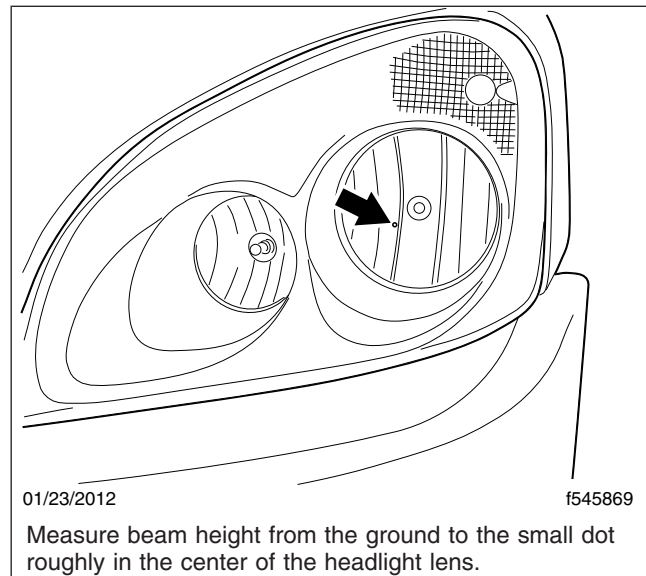
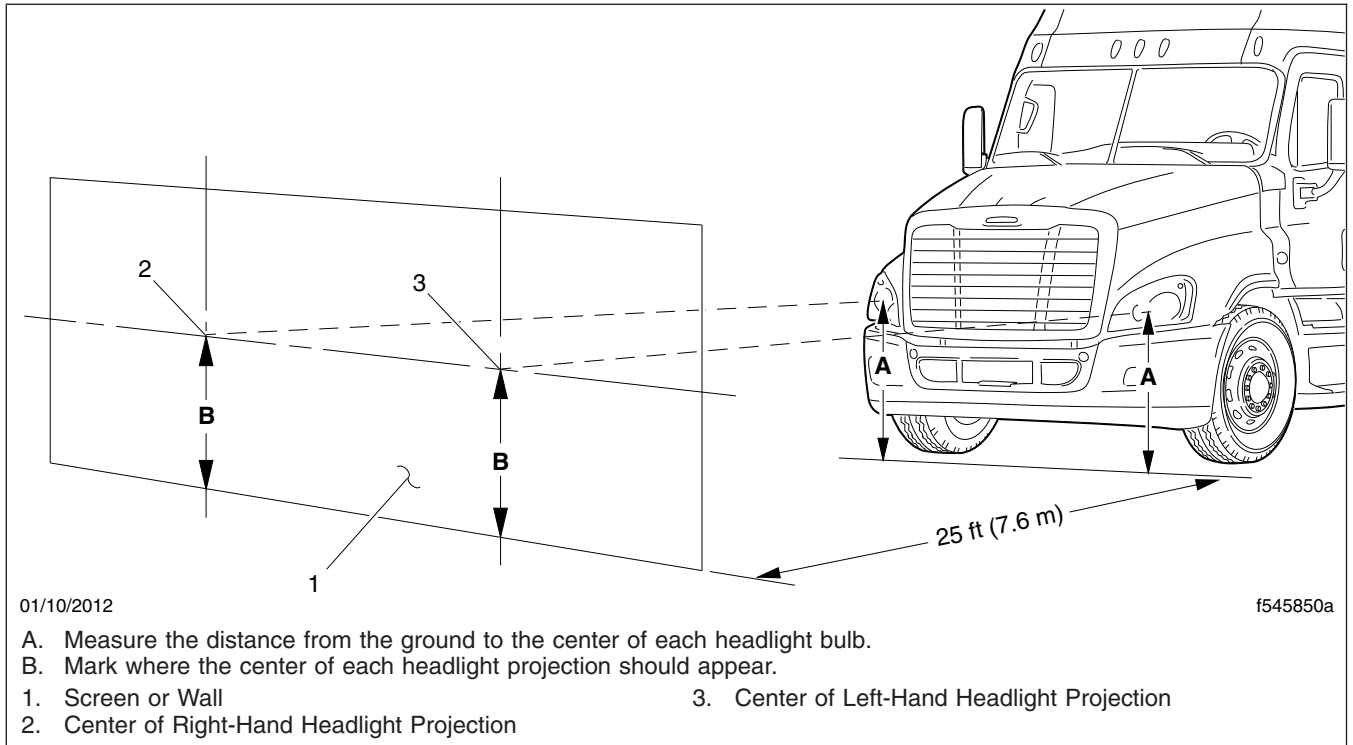

Fig. 23.1, Headlight Beam Height Adjusting Dot
Fig. 23.2, Headlight Aiming Screen/Wall
2. Each headlight has a height adjusting dot. See Fig. 23.1. Measure the distance from the ground to the height adjusting dot on each headlight (Fig. 23.2, Item A). Note those distances.
3. On the screen or wall, mark the locations of each headlight bulb center using the distances found in step 2. See Fig. 23.2, Items 2 and 3.